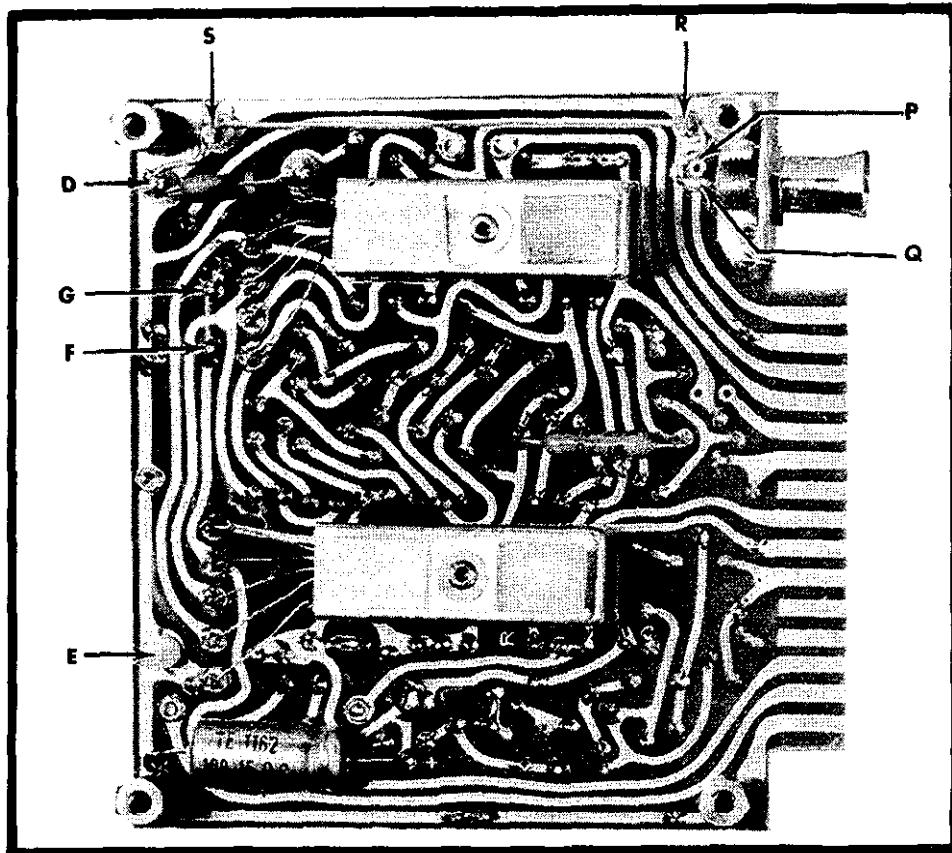
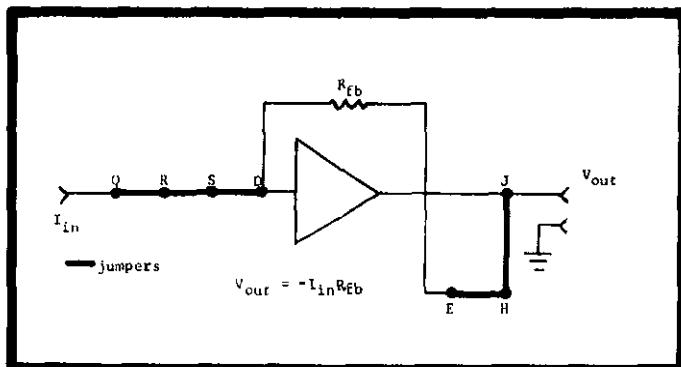

FIGURE 6. Circuit Points Within Model 300. Points are used to construct various circuits referred to in Figures 8 through 15.
FIGURE 8. Linear Current Amplifier Without Fractional Feedback.
1. Remove jumper Q-R (Figure 6).
2. Connect terminal R to hole P (Figure 6) located at the end of the ALT. INPUT tape.
c. Figures 8 through 15 illustrate the various modes of operation. The lettered terminals in these figures refer to the lettered points in Figures 6 and 7. Refer to the figures to connect jumpers and to mount elements.
2-7. LINEAR CURRENT AMPLIFIER (Figures 8 and 9).
c. Connections for a linear current amplifier without a fractional feedback (Figure 8):
1. Connect jumpers across terminals Q-R, R-S, S-D, E-H, and H-J (Figures 6 and 7).
1. Connect jumpers across terminals Q-R, R-S, S-D and E-H (Figures 6 and 7).
1. Connect jumpers across terminals Q-R, R-S, S-D, E-H and H-J (Figures 6 and 7).